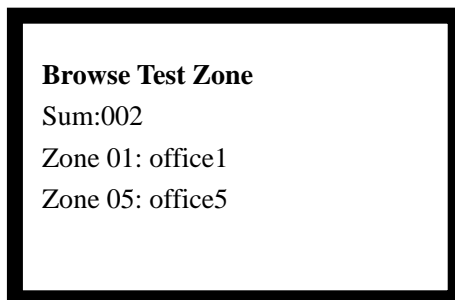

Fig. 6-7
- 2 (Group) (012)(020) // 2 groups are defined. There are 12 addressable devices on Loop 1, and 20 on Loop 2.
- ✧ Entering number 4 to choose “4. In Test Mode Zones” will enter the screen for browsing zones in test mode, as shown in Fig. 6-7.
In Fig. 6-7: